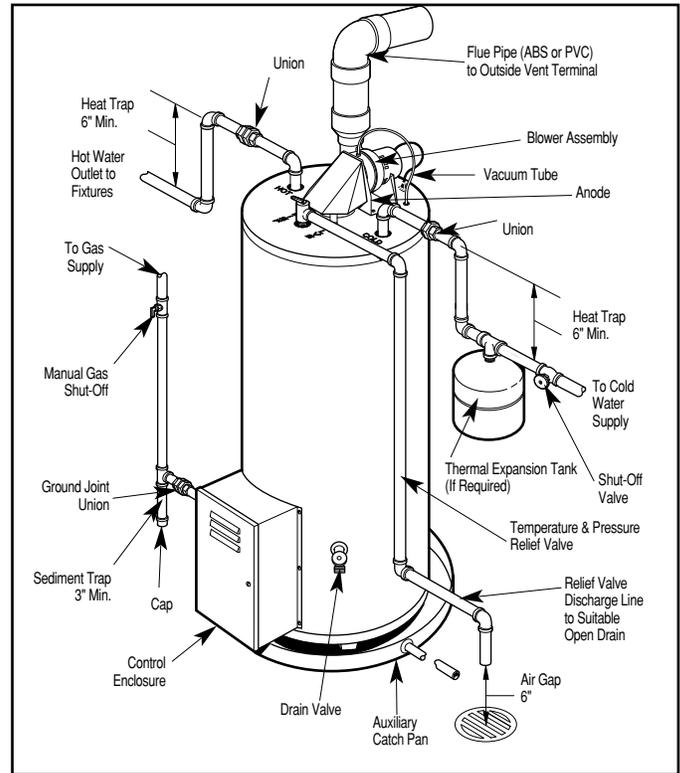

Figure 4 — Typical Installation
- 2. WATER SUPPLY CONNECTION-** Refer to Fig. 4 for suggested typical installation. The installation of unions or flexible copper connectors is recommended on the HOT and COLD water lines, so that the water heater may be easily disconnected for servicing if necessary. The HOT and COLD water connections are clearly marked. Install a shut-off valve in the cold water supply line near the water heater. Dielectric unions are not required for protection of the water heater. At the installers option, heat traps formed from piping as illustrated in Fig. 4 can be used to reduce heat loss from piping.
The suggested method of controlling thermal expansion is to install an expansion tank in the cold water line between the water heater and the check valve. (refer to Figure 4.) The expansion tank is designed with an air cushion built in that compresses as the system pressure increases, thereby relieving the over pressure condition and eliminating the repeated operation of the relief valve. Other methods of controlling thermal expansion are also available. Contact your installing contractor, water supplier, or plumbing inspector for additional information regarding this subject.
- 3. RELIEF VALVE-** A new combination pressure and temperature relief valve, complying with the Standard for Relief Valves and Automatic Gas Shutoff Devices for Hot Water Supply Systems, ANSI Z21.22, must be installed in the opening provided on the water heater, at the time of installation. (Refer to figure 4.) No valve of any type should be installed between the relief valve
- 5. GAS SUPPLY—**The branch gas supply line to the water heater should be clean 1/2" black steel pipe or other approved gas piping material. A ground joint union or ANSI design certified semi-rigid or flexible gas appliance connector should be installed in gas line close to the water heater, and a manual gas shut-off valve should be installed in the gas line prior to the union. The manual gas shut-off valve should be at least 5 feet above the floor and readily accessible for turning on or off. A sediment trap should be installed at the bottom of the gas line. (Refer to Fig. 4)
6. LEAK TESTING- The water heater and its gas connections **must** be leak tested at normal operating pressure before it is placed in operation. Turn **on** the manual gas shut-off valve near the water heater (refer to Figure 4). Use a soapy water solution to test for leaks at all connections and fittings. Bubbles indicate a gas leak that must be corrected. The factory connections to the gas valve and fittings should also be leak tested after the water heater is placed in operation.